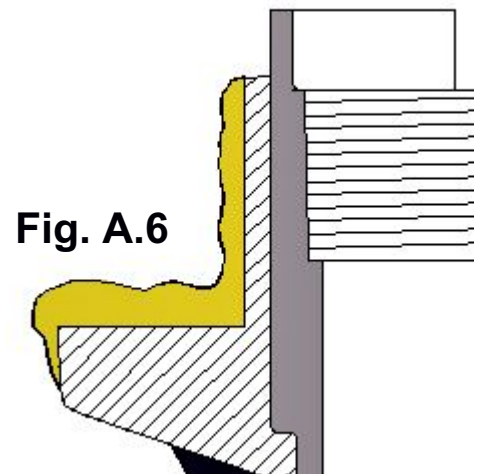

Fig. A.6
**A.6** - Mix Bravo Retrofit Epoxy and apply to the exposed flange face and side walls. (Fig. A.6)